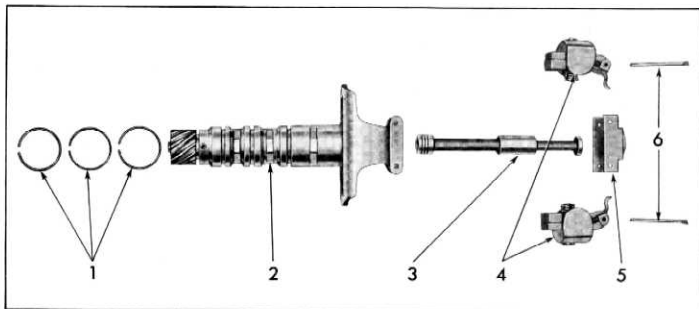

Fig. 192—Layout of Governor Assembly
- Figure 192 shows a layout of the governor assembly parts.